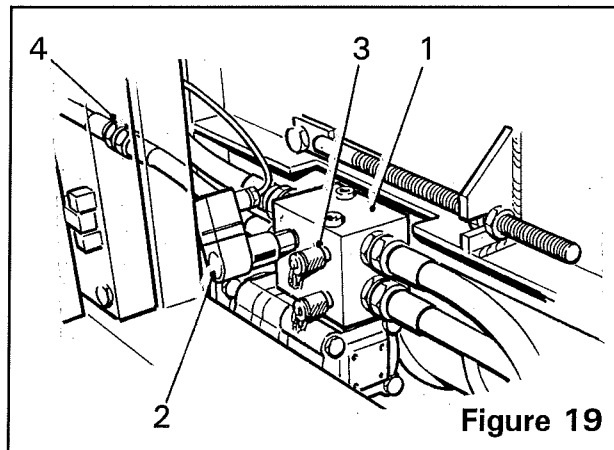

Figure 19
During varying harvesting conditions it may be found necessary to change the pressure at which the cleaner reverses. The automatic reverse control is operated by an adjustable pressure switch and an electronic timer relay. The pressure switch is mounted on the cleaner unit left hand motor manifold (*item 1, figure 19*).
1. Lift the cover cap (*item 2, figure 19*) to expose the adjuster screw that changes the switch setting.
2. Connect a pressure gauge to the forward gauge port (*item 3, figure 19*) and a throttle valve between the male/female coupling (*item 4, figure 19*) of the return hose. Connect a self powered test light or multimeter across the pressure switch terminals leaving the harness plug disconnected.